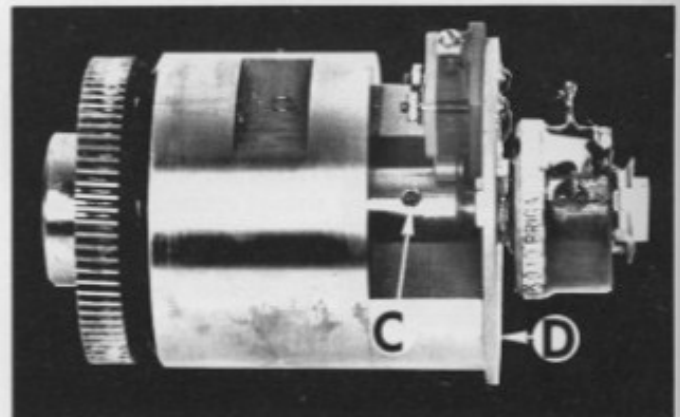

Figure 27 — Drive Cartridge
6. Remove drive cartridge, Figure 27, from housing by pulling straight out.
1. Remove lock screw "C", Figure 27, and loosen set screw under lock screw "C".
1. Reassemble drive cartridge, Figure 27, and replace in drive housing.